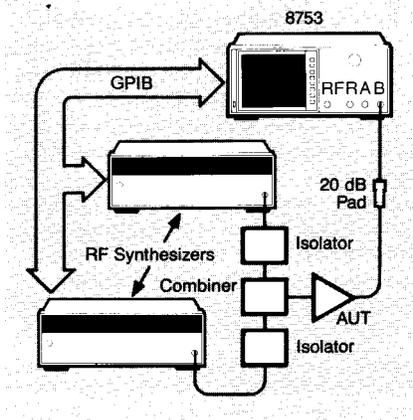

Figure 19. Two-tone third order intermodulation measurement setup
The measurement setup is shown in Figure 19. The two synthesizers used were 8656Bs. Attenuators are used to ensure the individual fundamental power levels at the receiver input are below -20 dBm.
1. Connect the instruments as shown in Figure 19. Connect the external frequency references together to synchronize the measurement frequencies. Preset the 8753B.